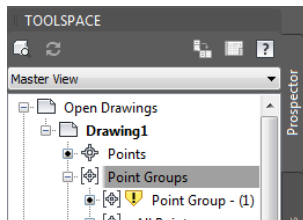

Figure 2-45 The symbol corresponding to the **Point Groups** indicating the out of date point group
The options discussed earlier for editing points are used to edit points of any point group. To access the editing options, expand the **Point Groups** collection in the **Prospector** tab and right-click on the required point group to display a shortcut menu, as shown in Figure 2-45.
A point group is called out of date if you add or delete points, or modify properties such as elevation or description of points included in the point group. The out of date point groups are indicated by a yellow symbol displayed in the **Prospector** tab on the left of the point group name, as shown in Figure 2-45. The **Point Group - (1)** is out of date as indicated by the symbol on the left. This shows that some changes have been made in the point group.